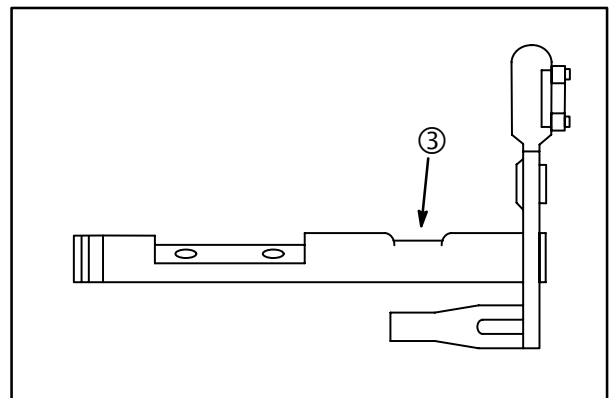

Fig. 97
2. Inspect throttle shaft and choke shaft for wear (3), **Fig. 97**. Replace if worn.